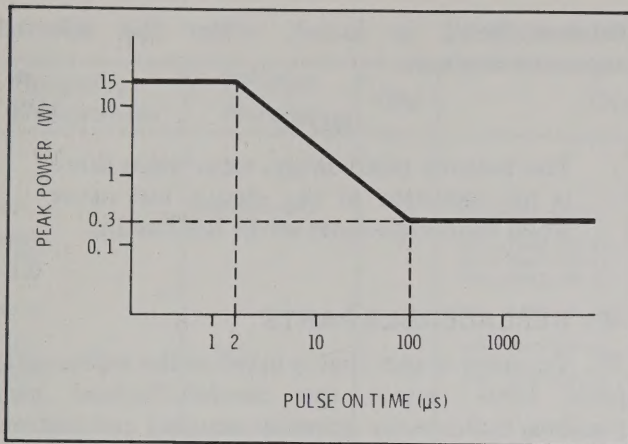
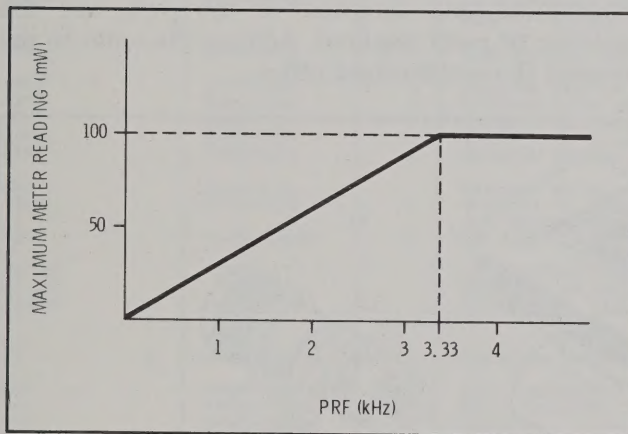

Figure 1. Maximum Energy Input to Power Sensor
Figure 2. Maximum Power Reading vs Pulse Repetition Frequency (Pulse Width < 100 μs)
Exceeding the energy and power levels shown in Figures 1, 2, and 3 may result in damage to the power meter system.
28. Figure 1 expresses the absolute maximum energy input in graphical form. Figures 2 and 3 show the maximum levels that may be indicated by the power meter, as they relate to pulse repetition frequency (PRF) and duty cycle, and still be within the allowable energy levels expressed in Figure 1.